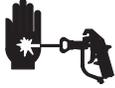

**Fig. 6**
2. Unscrew the filter bowl (A) and remove the screen (B). Leave the support (C) in place. Reinstall the bowl. Clean the screen separately. See Fig 6. Also see instruction manual 307-273, supplied.
3. Close the pressure drain valve (60).